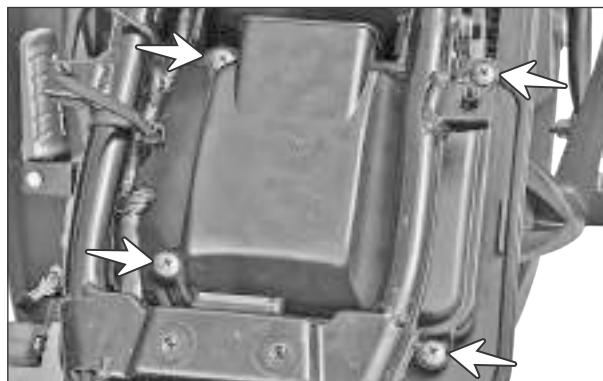

Fig. 2.41
- Remove the CRR pan head screw (M5x16 - 4 nos.) from the cover filter element. (Fig. 2.41)